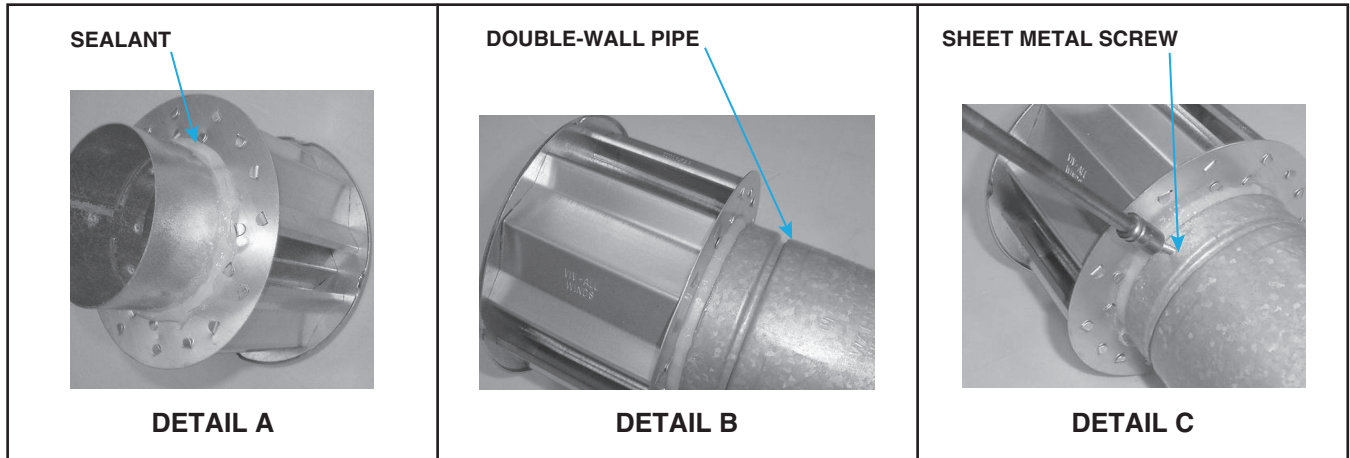

Figure 18. Connecting Double-Wall (Type B) Pipe to Vent Cap
- a. Apply continual 3/8-inch bead of silicone sealant around circumference of vent cap collar (see **Figure 18**, DETAIL A) to prevent any water inside vent cap from running down double-wall pipe.
- b. Before sealant has any time to dry, insert collar on vent cap as far as possible inside inner wall of double-wall pipe (see **Figure 18**, DETAIL B).
- d. Secure vent cap to double wall pipe by drilling hole and inserting 3/4-inch-long sheet metal screw into vent cap collar (see **Figure 18**, DETAIL C). Do not overtighten screw.